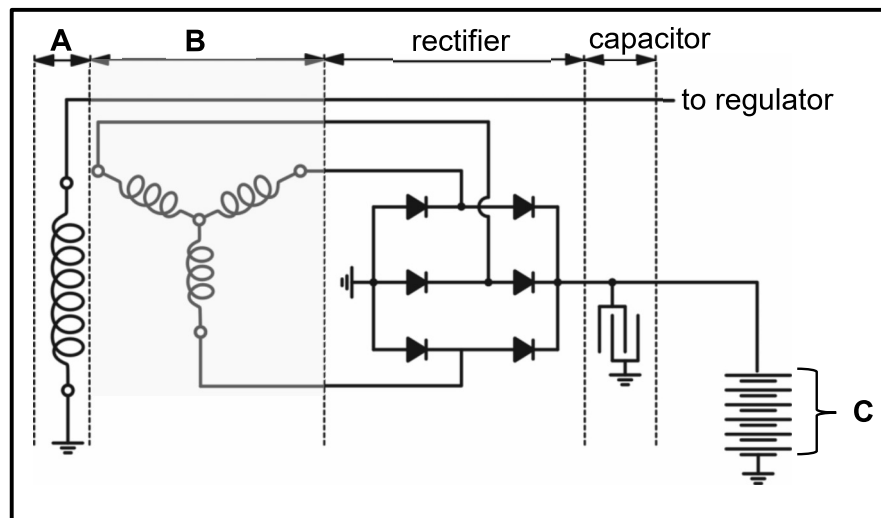

FIGURE 10.8
10.8 FIGURE 10.8 below shows a three-phase alternator circuit diagram. Answer the questions that follow.